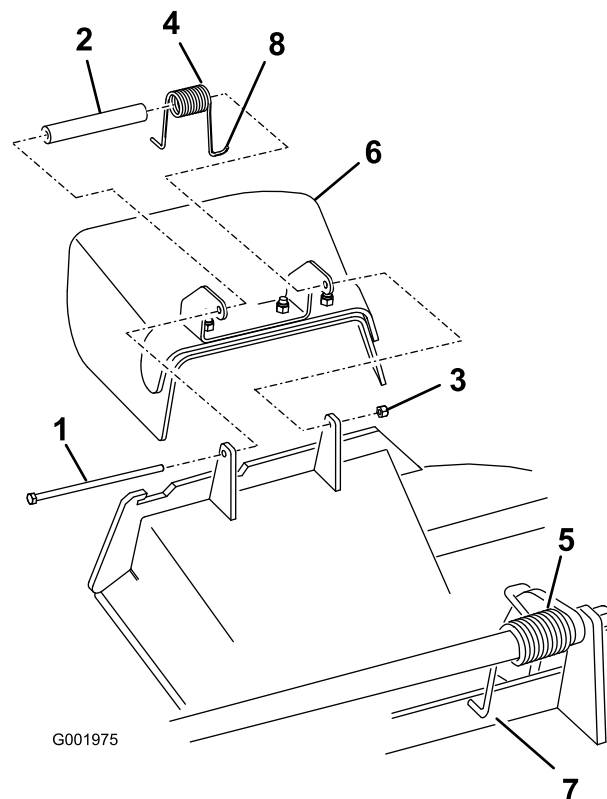

Figure 89
- Remove the locknut, bolt, spring and spacer holding the deflector to the pivot brackets (Figure 89). Remove damaged or worn grass deflector.
Note: Make sure the L end of spring is installed behind deck edge before installing the bolt as shown in Figure 89.
3. Install bolt and nut. Place the **J** hook end of spring around grass deflector (Figure 89).